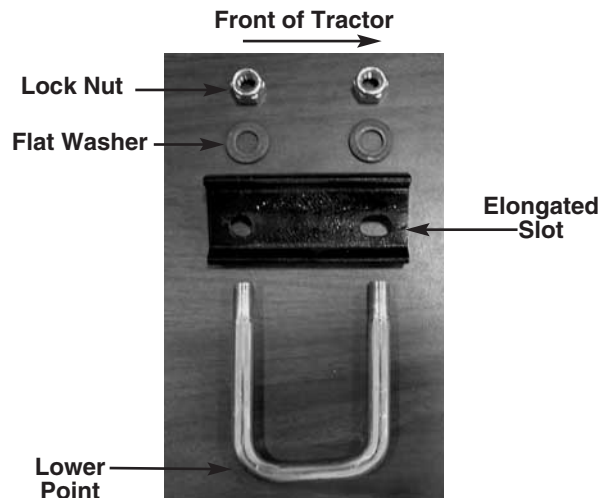

FIGURE 7.
20. Remove both transmission to frame “U” bolts using a 3/4" socket. See figure 7.
NOTE: The “U” bolts have a lower point on one side. The point goes towards the rear of the unit during reassembly. See figure 7.